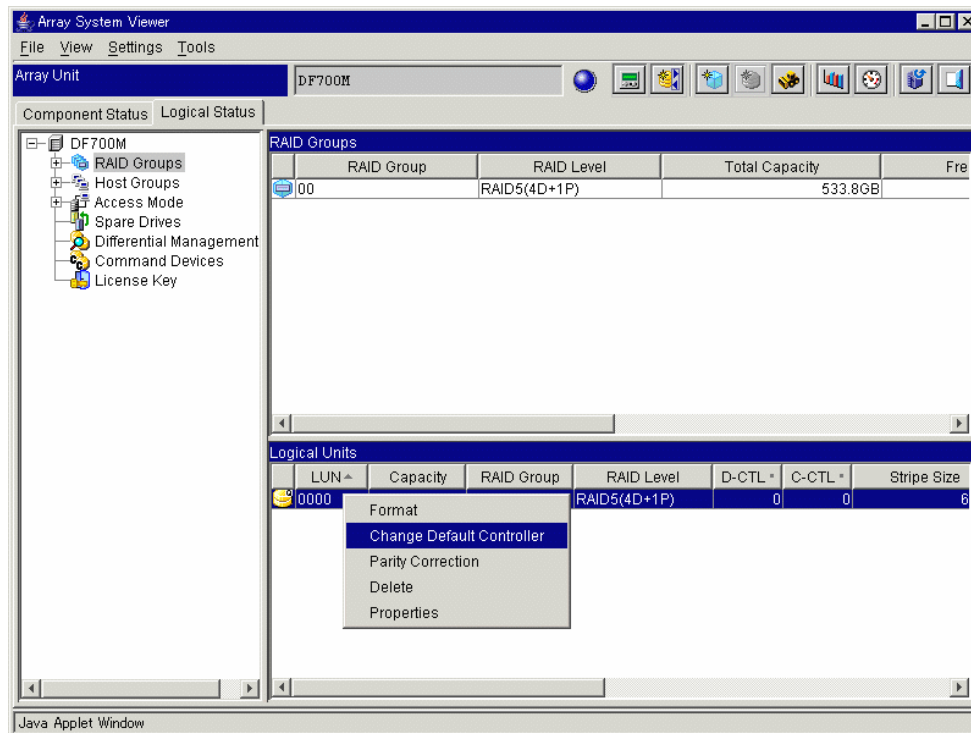

Figure 5.23 Logical Units - Change Default Controller
1. Click the **Logical Status** tab on the **Array Unit** screen. See Figure 5.23.